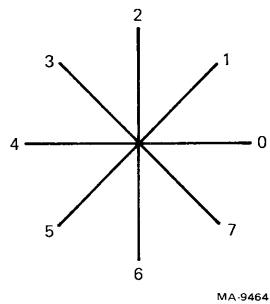

Figure 5-2 Pixel Vector
This command draws a line one pixel multiplier long in the direction specified by <pixel vector> (also shown as <pv>). The direction may be any of the integers 0 through 7 according to Figure 5-2. The direction numbers represent angles at 45 degree intervals from 0 (0) to 315 (7).